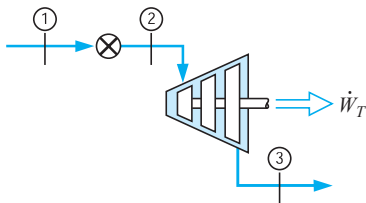

FIGURE P6.46
- 6.46** A small turbine, shown in Fig. P6.46, is operated at part load by throttling a 0.25-kg/s steam supply at 1.4 MPa and 250°C down to 1.1 MPa before it